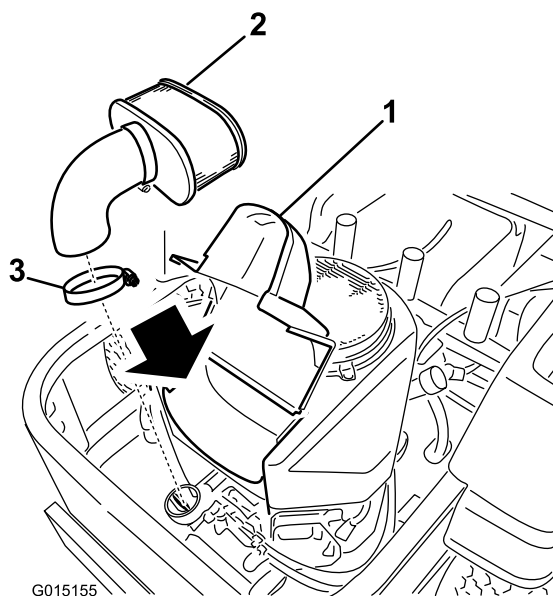

Figure 35
4. Lift the cover and remove the hose clamp securing the air cleaner assembly to the engine (Figure 35).
5. Loosen the hose clamp and remove the paper element (Figure 35).